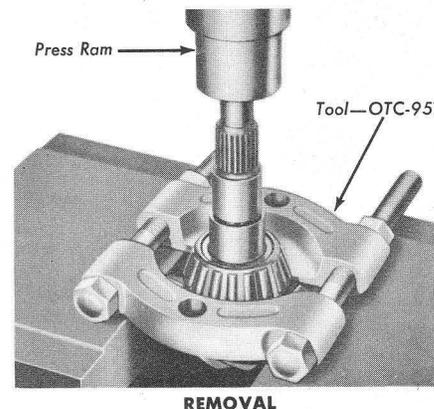

FIG. 12—Pinion Rear Bearing Cone Removal and Installation
10. Remove the pinion rear bearing cone (Fig. 12).
against the pinion shaft shoulder (Fig. 12).